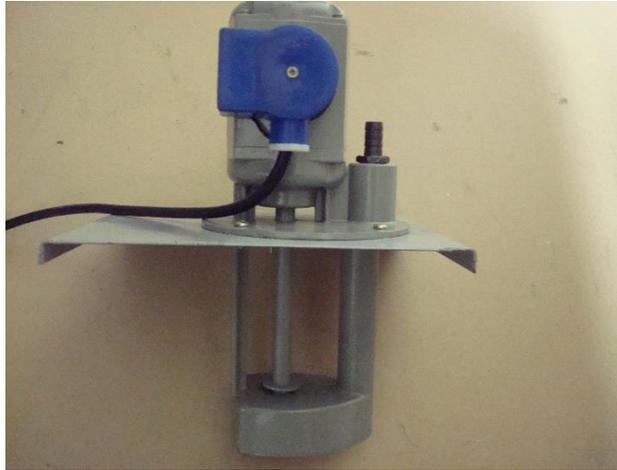

Figure 3-92
- 10) Reinstall the protective cover plate over the power terminals and secure it with the Phillips screw (Figure 3-92).